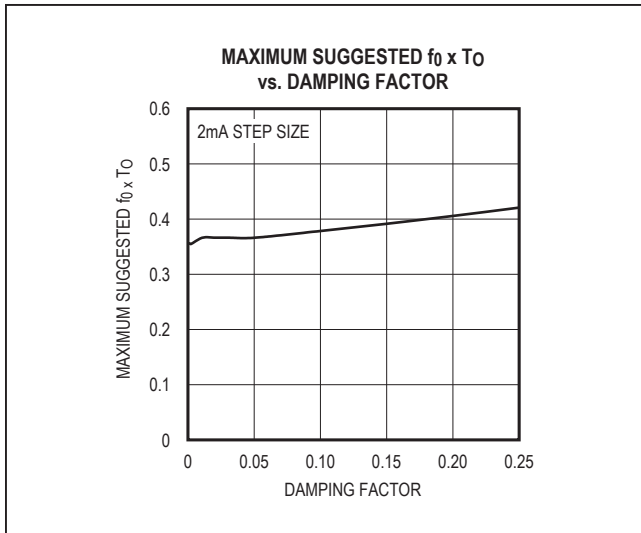

Figure 4. Maximum $f_0 \times T_O$ Product vs. D_{VCM}
- 5) Use the chart in Figure 4 to extrapolate the suggested $f_0 \times T_O$ product.